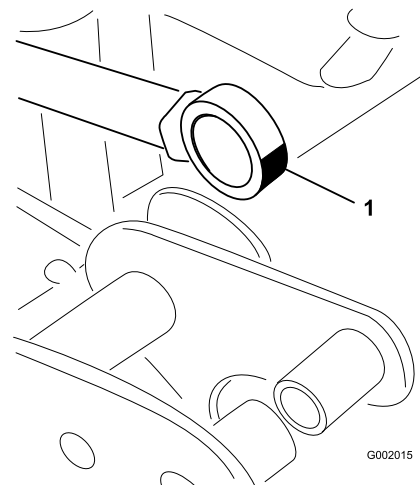

Figure 67
5. Swivel the rod-end bearing and apply grease into the bearing (Figure 67).